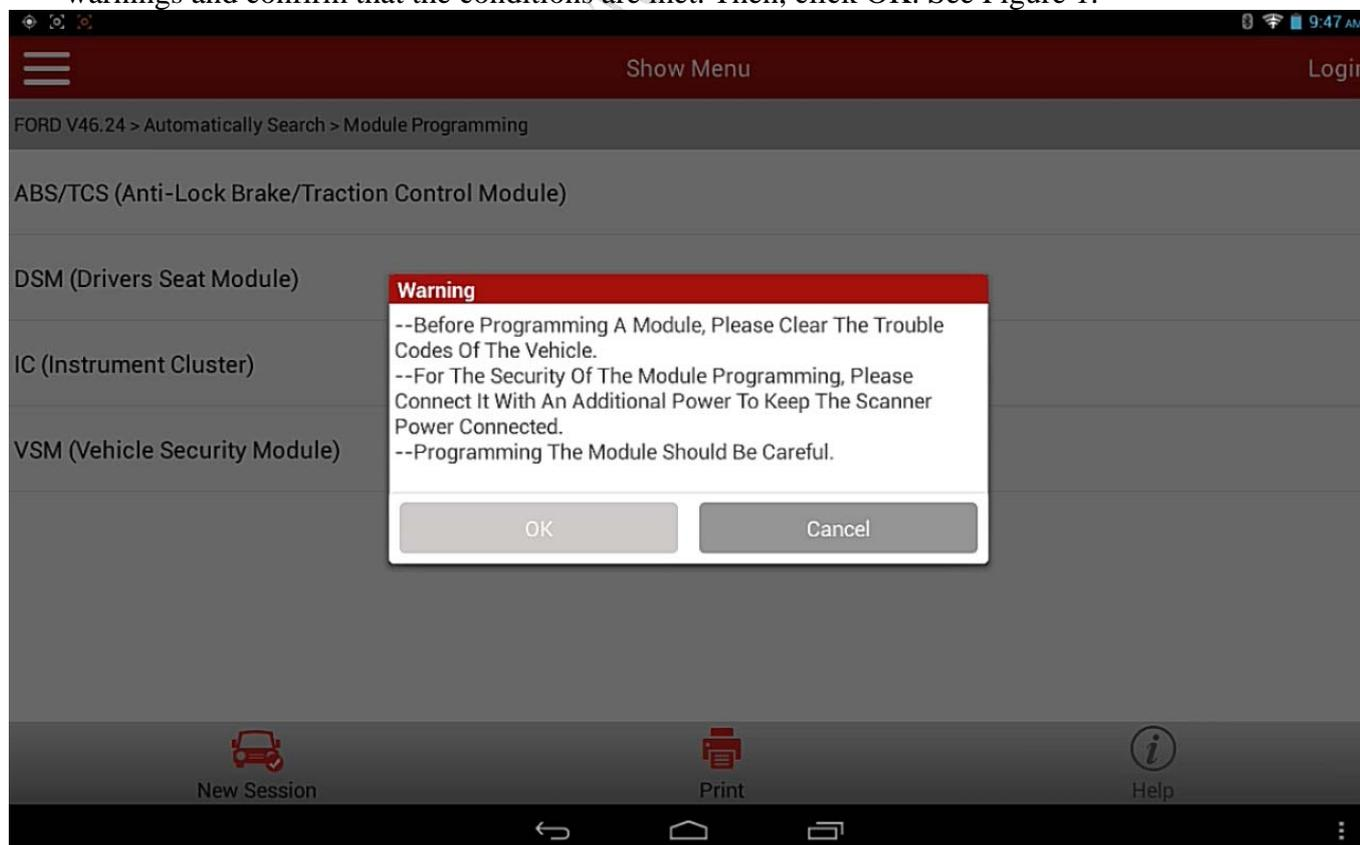

Figure 1
- 5). Choose programmable module installation. Before installing the module, clear DTCs and configure an auxiliary power supply to keep the decoder power supply connected. Read the warnings and confirm that the conditions are met. Then, click OK. See Figure 1.